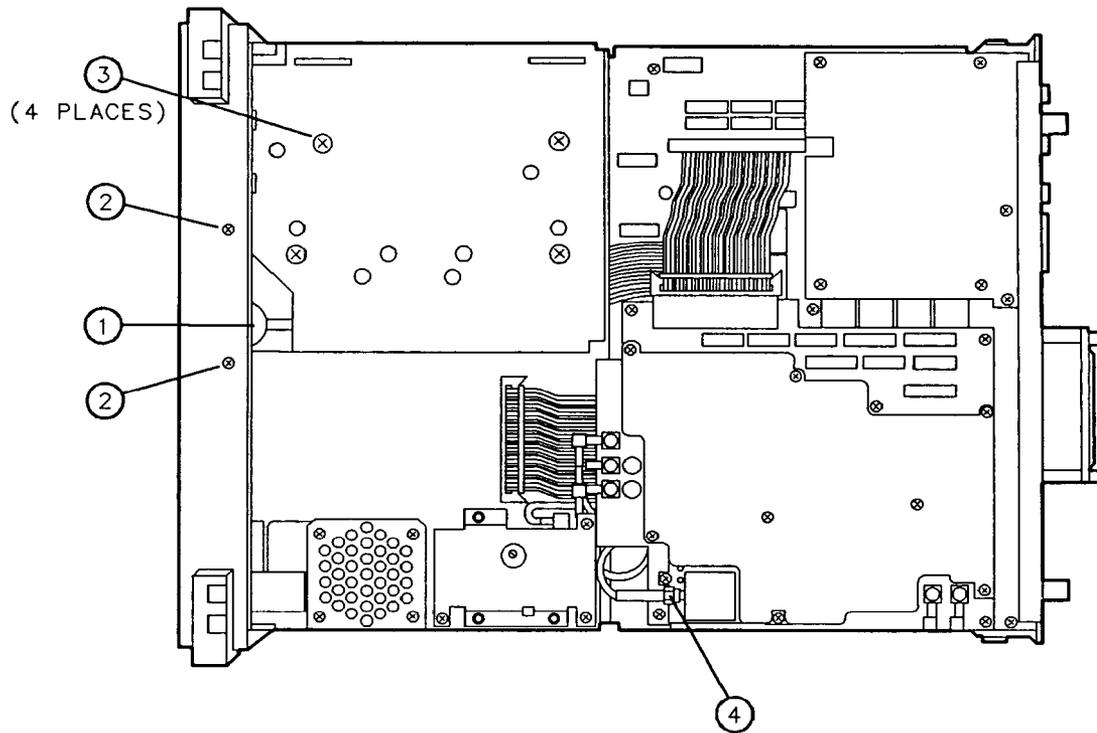

Figure 3-23. Removing the Front Frame Screws
27. Loosen the SMA connection of W10 (1) at the front panel RF INPUT 50Ω connector. See Figure 3-23. (*Option 001: INPUT 75Ω connector.*) Do not remove or bend the cable.
28. Remove the two screws (2) securing the bottom of the front frame to the main chassis.
31. Remove the four screws (3) securing the RF assembly to the chassis. See Figure 3-23.
32. Disconnect the COUNT LOCK LO OUT cable (4) from the A25 board assembly. Remove the RF section from the analyzer. The COUNT LOCK LO OUT cable will be pulled through a hole in the sheet metal. Disconnect the COUNT LOCK LO OUT cable from the RF section.